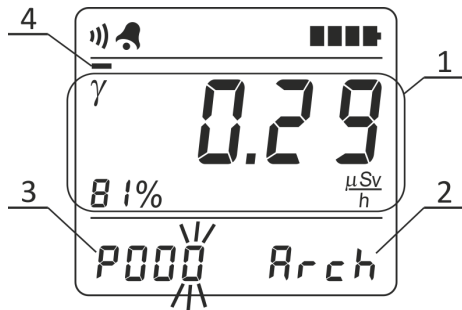

Figure 2.8 – LCD of the radiometer
2.3.3.6.25 To save the measurement result in the nonvolatile memory, shortly press SAVE button in the mode of displaying the measured characteristics of ionizing radiation. The radiometer will switch to the submode of measurement result saving. “Arch” (2) characters on the LCD of the radiometer are the indication of this submode (Figure 2.8).